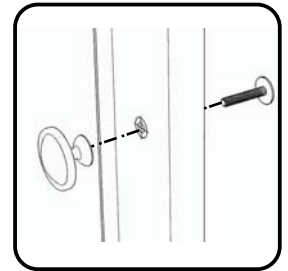

Figure 8
Attach Knobs to Doors (O) and (P) with Machine Screws. (See Figure 8)